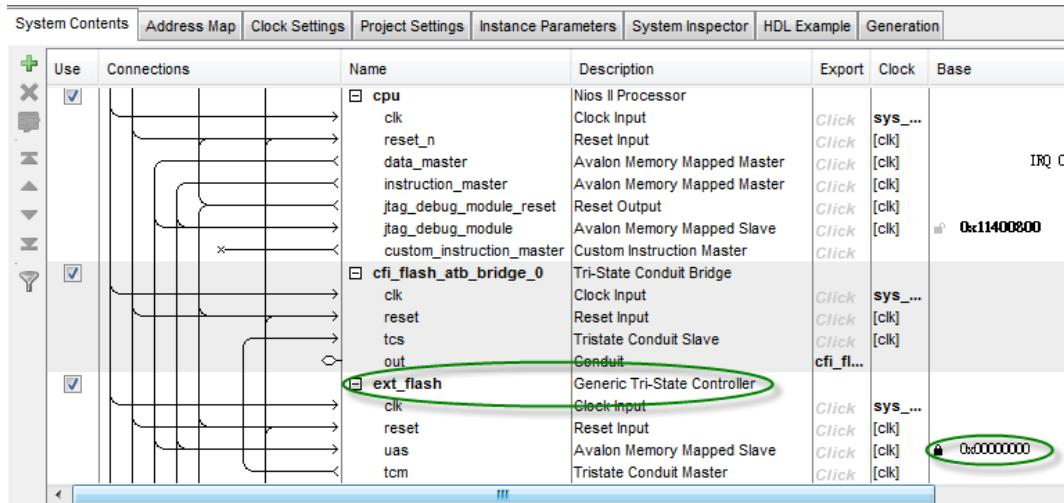

Figure 4-3 Flash Controller Settings in QSYS
1. QSYS should include a Flash controller for the CFI Flash on the development board. Please ensure that the base address of the controller is 0x00, as shown in Figure 4-3.